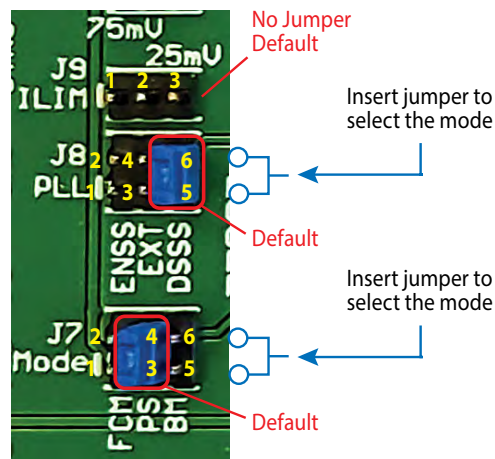

Figure 9: EPC9195 selector jumper locations and designations for oscillator, current sense level, and light load mode settings
The EPC9195 has three light-load operating modes available which are 1) forced continuous inductor current (FCM), 2) pulse skipping (PSM), and 3) burst mode (BM). See the LTC7891 datasheet for details on each operating mode. The desired operating mode can be selected by inserting a jumper into the appropriate position on J7 with position 1-2 for FCM, position 3-4 for PSM (default) and position 5-6 for BM, as shown in figure 9.
The EPC9195 has three oscillator setting options; 1) Disable spread spectrum (DS SS), 2) External clock (EXT), and 3) Enable spread spectrum (EN SS). See the LTC7891 datasheet for details on each setting and refer to table 1 for external clock voltages. The desired setting can be selected by inserting a jumper into the appropriate position on J8 with position 1-2 for EN SS, position 3-4 for External clock (EXT SYNC), and position 5-6 for DS SS (default). When selecting the external clock option, the external signal can be connected between SYNC (TP11) and GND (TP10) and must be within the specifications of the LTC7891 IC given in table 1. See figure 9 for the location of the oscillator jumper settings.
The LTC7891 internal current comparator can be configured with one of three maximum current sense threshold settings which are 25 mV, 50 mV and 75 mV. The threshold level can be selected by inserting the jumper on J9 with position 1-2 for 75 mV threshold, position 2-3 for 25 mV threshold, and without inserting jumper for 50 mV threshold (**default**), as shown in figure 9. Please refer to the LTC7891 datasheet for more information.